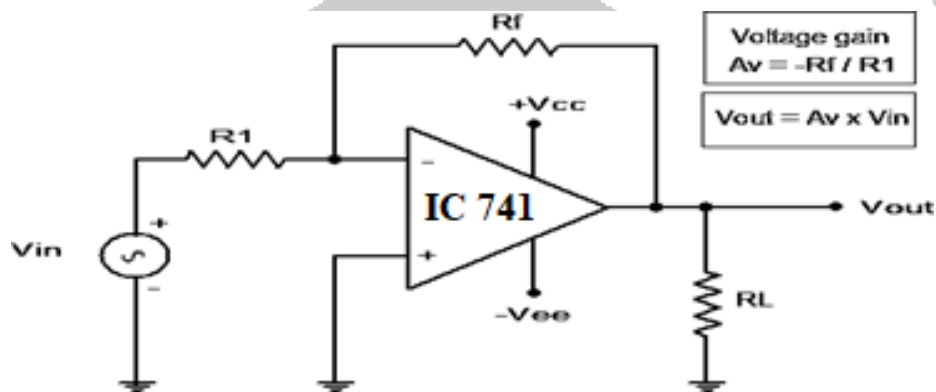

Fig. 6.1: Inverting Amplifier
4. Connect R_1 and R_f as shown in Figure 6.1